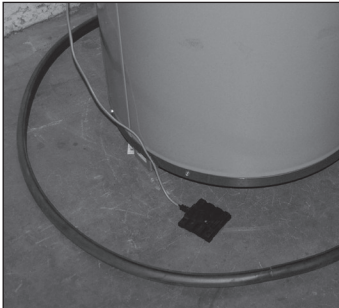

Figure 4
4. Install the Water Detector Pad under the water heater with the green circuit board down. The Detector Pad must lie flat on the floor or in a drain pan. Route the connecting cable to the Control Unit and insert the interlocking connector to the circuit board. **Figure 4**